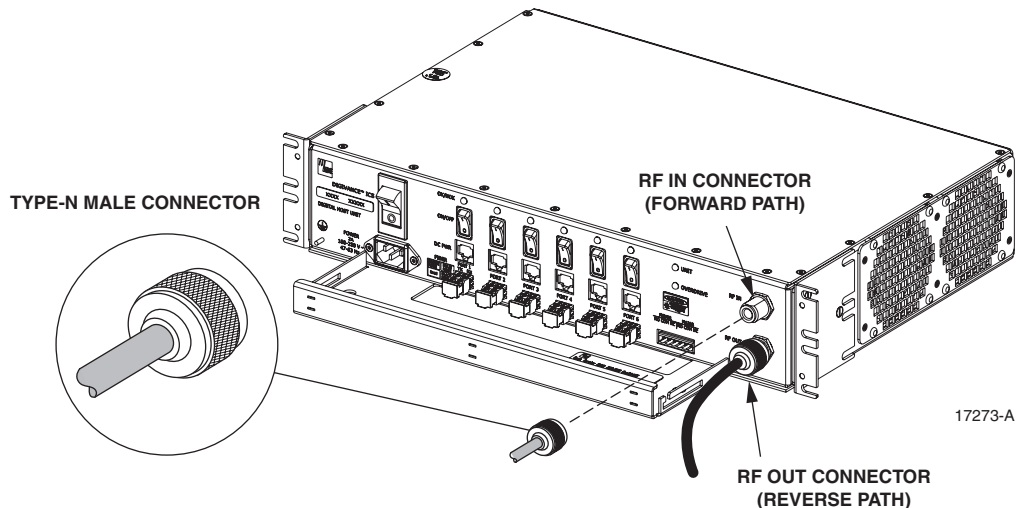

Figure 17. Forward and Reverse Path Coaxial Cable Connections
4. Connect the forward path cable to the **RF IN** connector on the DHU front panel as shown in Figure 17.
5. Connect the reverse path cable to the **RF OUT** connector on the DHU front panel as shown in Figure 17.